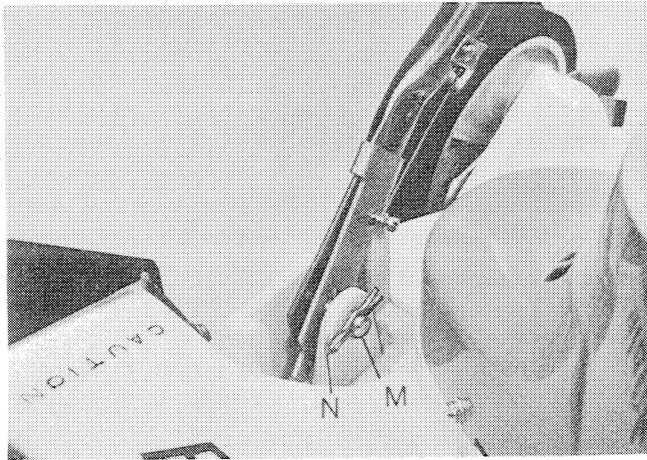

FIGURE 5
- (3) Attach handle to mower deck with 2 mounting pins "M" (Figure 5) and 2 spring clips "N". Pins and clips are item "B" in Figure 1.